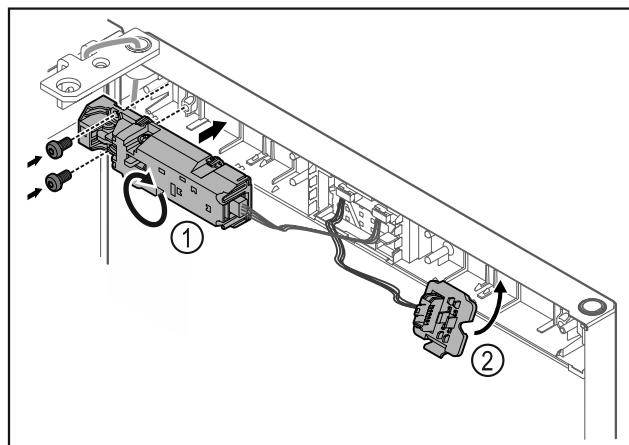

Fig. 11
- Turn the remote lock Fig. 11 (1) by 180° and fasten it on the opposite side.
- Engage the plug holder Fig. 11 (2) on the opposite side.*